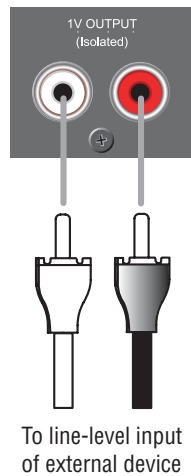

Figure 2.9 Connections to the MOH Line Output RCA Connectors
- **MOH Line Output RCA Connectors:** Two RCA connectors (mono) for 1-volt Music-On-Hold output (in parallel with 600-ohm connectors, so they are isolated). See Figure 2.9.